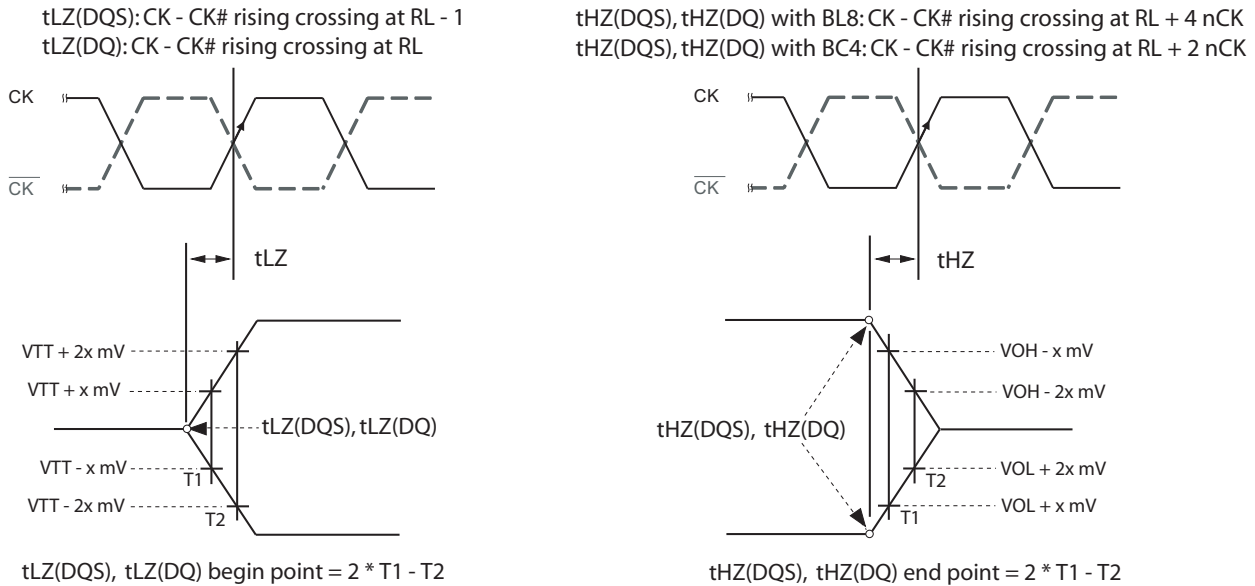

Figure 27. tLZ and tHZ method for calculating transitions and endpoints
$t_{LZ}(DQS)$, $t_{HZ}(DQS)$ for preamble/postamble (see 2.13.2.3 $t_{LZ}(DQS)$, $t_{LZ}(DQ)$, $t_{HZ}(DQS)$, $t_{HZ}(DQ)$ Calculation and Figure 27)
2.13.2.3 tLZ(DQS), tLZ(DQ), tHZ(DQS), tHZ (DQ) Calculation
tHZ and tLZ transitions occur in the same time window as valid data transitions. These parameters are referenced to a specific voltage level that specifies when the device output is no longer driving tHZ(DQS) and tHZ(DQ), or begins driving tLZ(DQS), tLZ(DQ). Figure 27 shows a method to calculate the point when the device is no longer driving tHZ(DQS) and tHZ(DQ), or begins driving tLZ(DQS), tLZ(DQ), by measuring the signal at two different voltages. The actual voltage measurement points are not critical as long as the calculation is consistent. The parameters tLZ(DQS), tLZ(DQ), tHZ(DQS), and tHZ(DQ) are defined as singled ended.